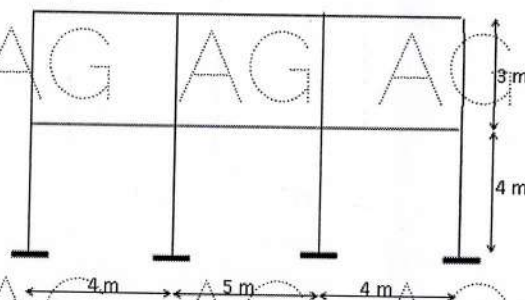

Figure 4
6. In a multi-storeyed building the frames, as shown in figure 4, are spaced at 3.6 m c/c. The dead and live loads carried by the slab are 1 kN/m^2 and 3 kN/m^2 respectively. Using substitute frame method, analyse an intermediate span of the first floor for maximum negative bending moment. [15]